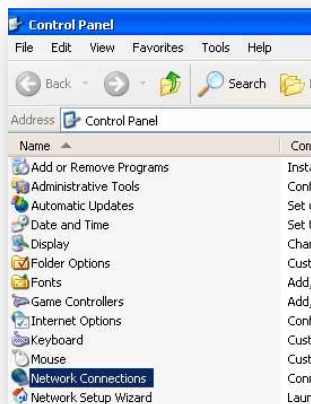

Figure 5.
- i. In the properties of the computer network card, select Internet protocol (TCP/IP) (Windows \leq XP) (Please see figures 5, 6, & 7.) or Internet Protocol Version 4, (Windows \geq 7) Please see figures 8 & 9.)